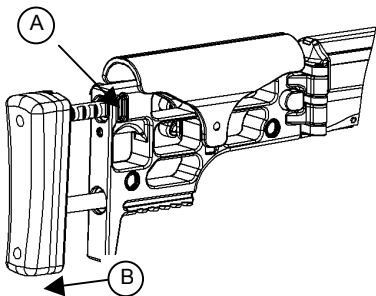

Figure 13, Steps A and B.
1. To adjust the length of pull, depress the adjustment button to release the cross lock pin and slide the recoil pad to desired location. (*Figure 13, Step A and B.*)